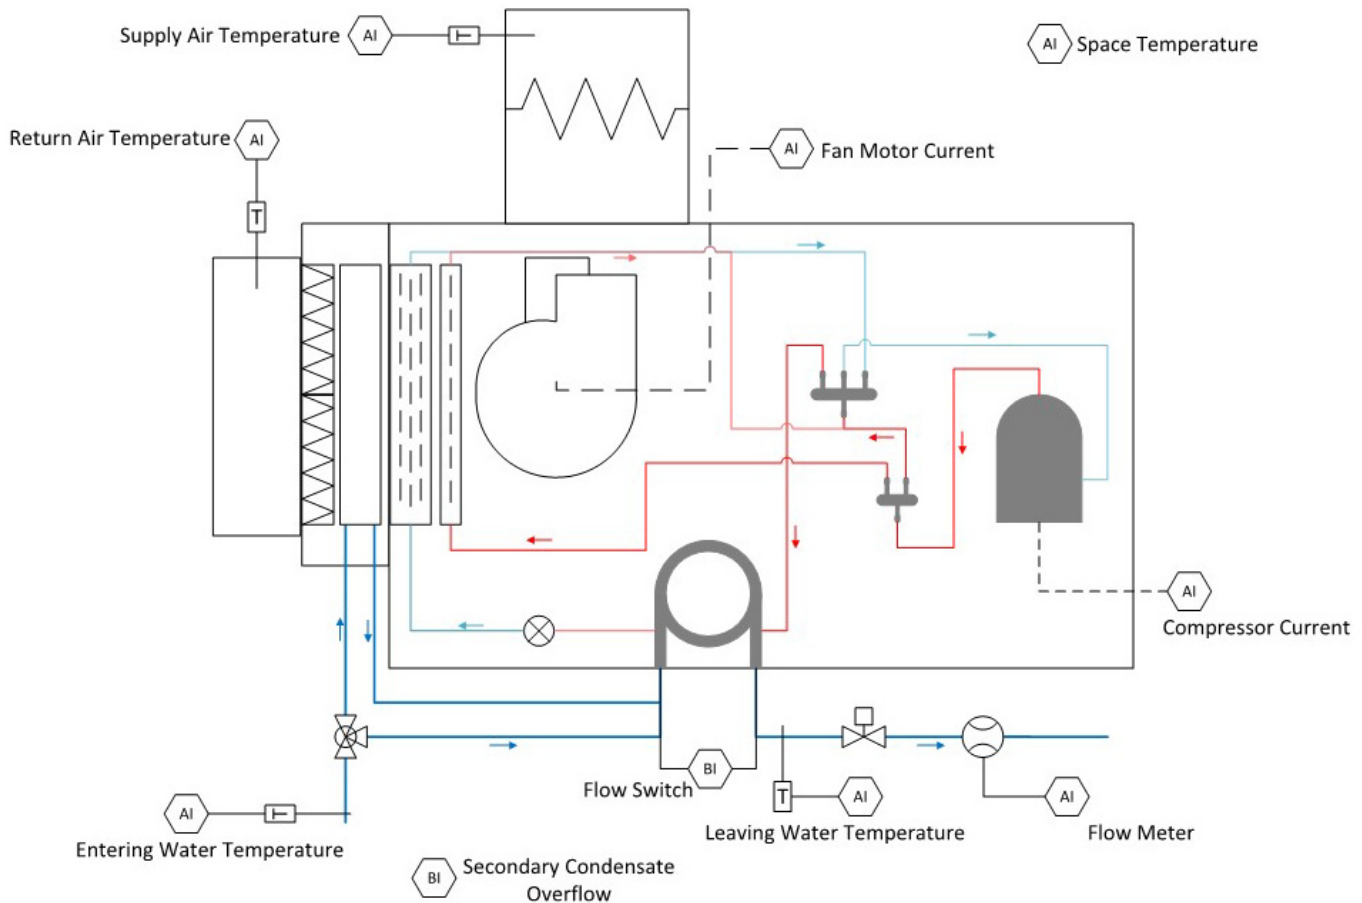

Fig. 7 — Sensor Schematic
1. Place the sensor in the middle of the duct away from temperature stratified air, coils or humidifiers to achieve the best temperature reading. See Fig. 7 for sensor schematic example.